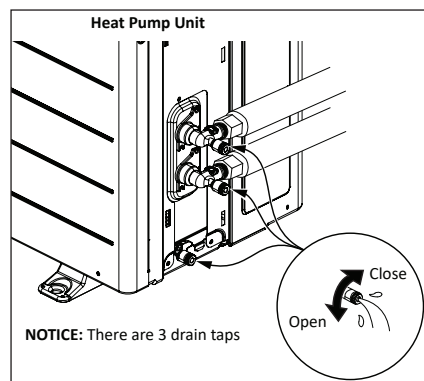

Figure 22 - Purge all air from the unit.
- NOTICE:** Amount of time for the air to fully purge could vary due to inlet line length and height differences (Figure 22).